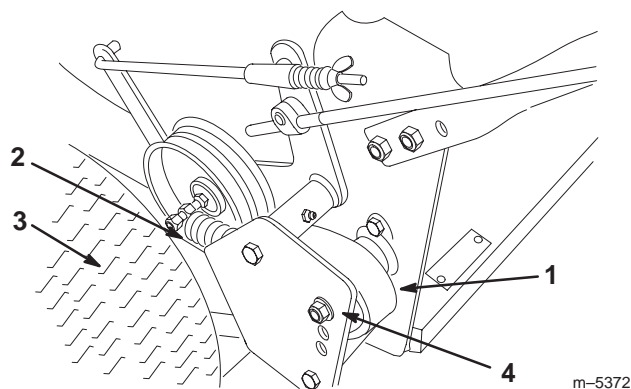

Figure 39
3. Remove the drive spring from the adjustment bolt (Fig. 39).